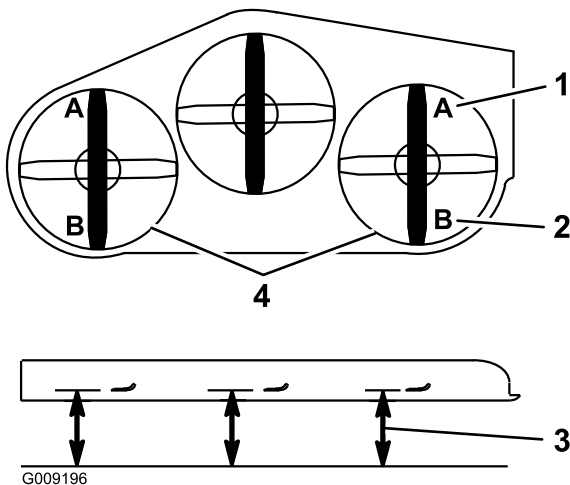

Figure 89
- 9. On both sides of the deck, measure from the level surface to the front tip of the blade (Position A). The measurement should read 3 inches (7.6 mm) (Figure 89).
15. On both sides of the deck, measure from the level surface to the back tip of the blade (Position B). The measurement should read 3 1/4 inches (8.3 cm) (Figure 89).